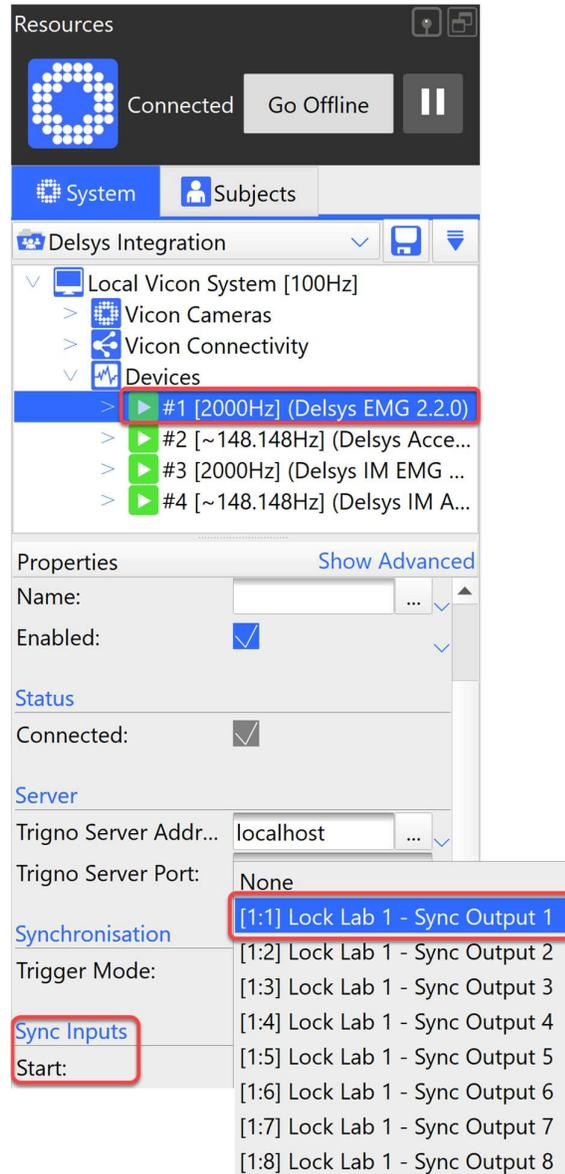

Figure 9: Available GPO Sync Ports on the Lock+/Lab unit.
- Navigate to the Sync Inputs section and in the Start drop down menu select the GPO port connected to the Delsys Trigger Module (Figure 9).